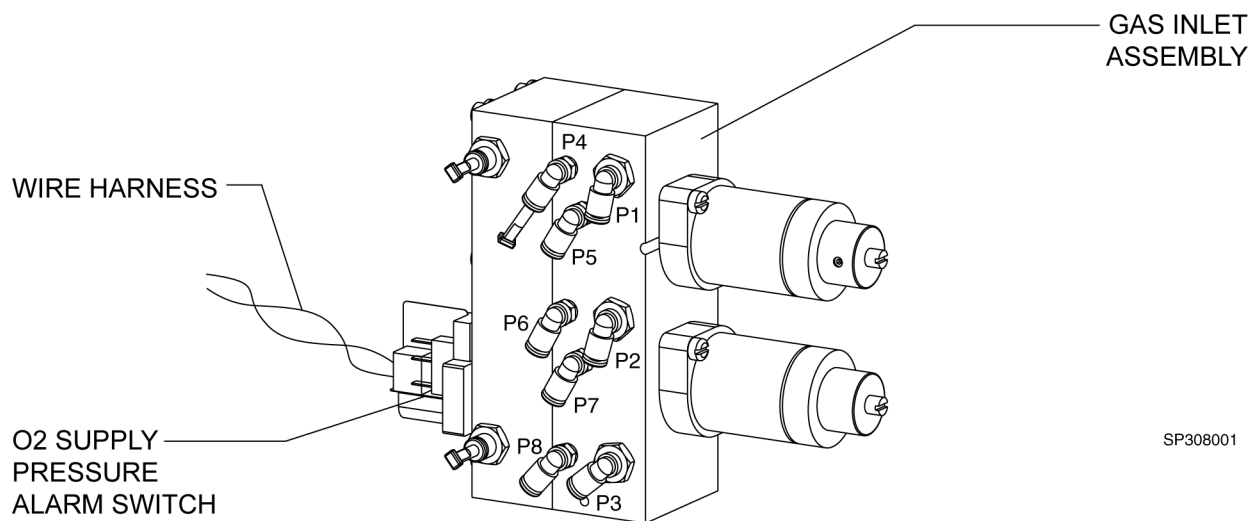

Fig. 1 Gas Inlet Assembly
9. Make a note of the pneumatic connections to the gas inlet assembly, and their destinations. Identify and label tubing (see Fig. 1) to ensure proper reassembly
10. Disconnect the following tubing from the gas inlet assembly. See Fig. 1.